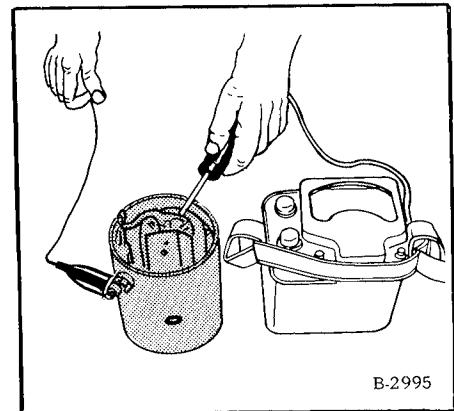

Fig. 6-31 Field Coil Insulation Test
(1) Measure the insulation resistance between the field coils and yoke, using a megger meter (Fig. 6-31).